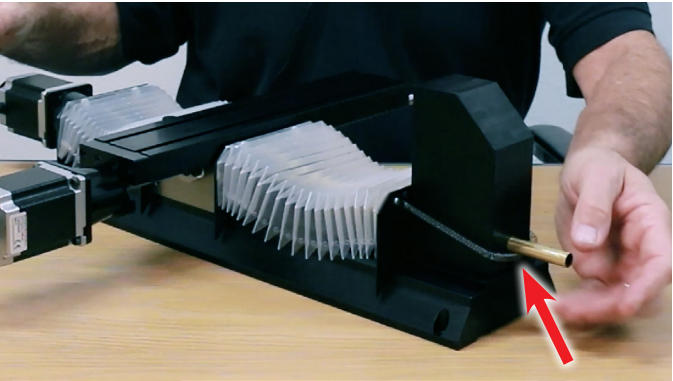

FIGURE 17—The red arrow is pointing to the backside mounting plate spring located under the brass cover tube.
8. If you notice the backside mounting plate starts to ride up the column base all the time, just move the spring underneath the brass tube (see Figure 17).